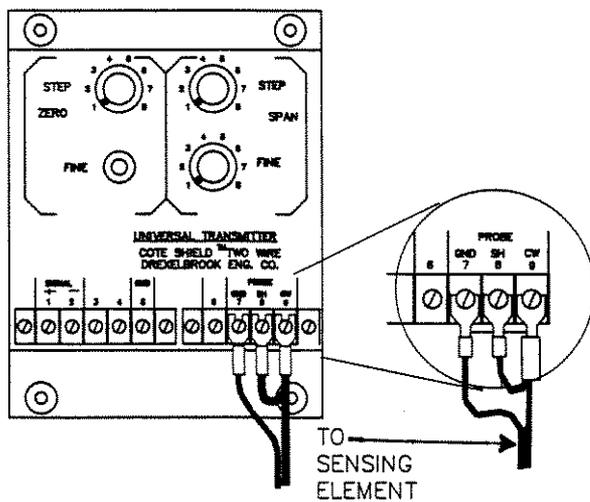

Figure 4-15
The cable from the sensing element is connected to the terminal strip on the electronic unit chassis. See Figure 4-15. The cable connections are center wire (CW), ground (gnd) and shield (SH), which are terminated respectively to term. #9 (CW), term. #7 (gnd), and term. #8 (SH) of the electronic unit. Only coaxial cables supplied by Drexelbrook Engineering Company should be used to connect the electronic unit to the sensing element. Use of other cables can result in unstable calibration.
Drexelbrook open channel flow flush sensing elements are furnished standard with 25 feet of three-terminal cable integral with the sensing element. See Fig. 4-15 for sensing element cable connections to the electronic unit. The cable should not be run in conduit where substantial moisture could accumulate.